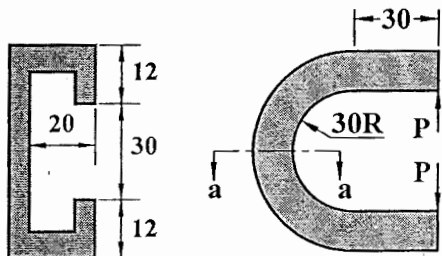

Fig. 2
4. Determine the location of the shear center for the cross section of a prismatic beam shown in Fig. 2. The thickness of all walls of the beam is 4 mm. All dimensions shown in Fig. 2 are in mm. (5)